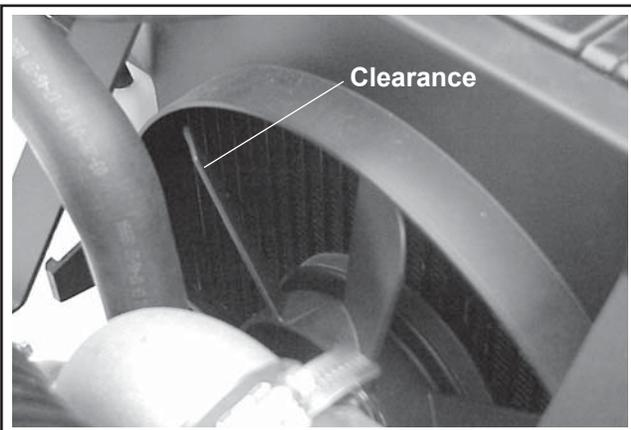

Figure 11-115. Fan Clearance Checking.
6. Check for adequate clearance between fan and shroud. Adjust the lower radiator supports as required, then torque the four mounting screws to **9.9 N·m (88 in. lb.)**. See Figures 11-115 and 11-116.